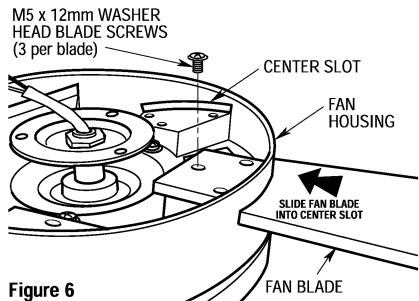

Figure 6
- 8. Slide blade through center slot in fan housing. Mount blade to fan housing using three M5 x 12mm washer head blade screws (Figure 6).